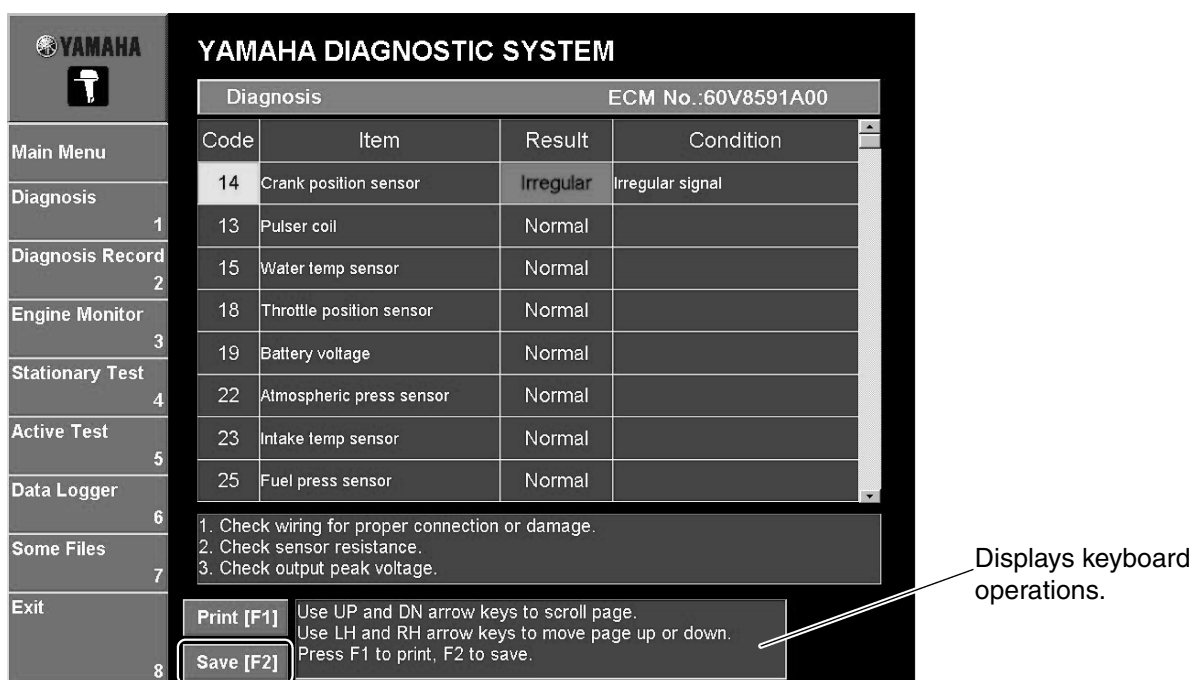

Fig. 15
- Click the **Save [F2]** button or press the F2 key on your keyboard. The **Save As** dialog box is displayed. (Fig. 15)